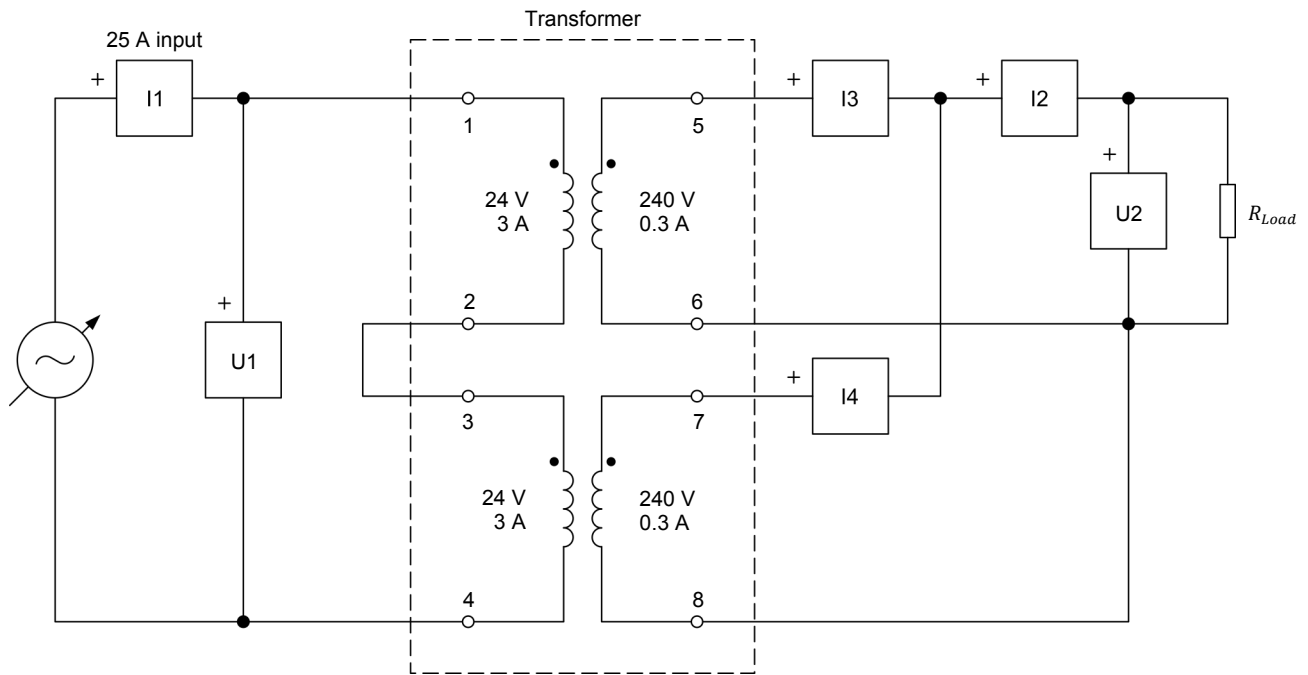

Figure 20. Step-up transformer with windings connected in parallel.
30. Modify the circuit connections to obtain the circuit shown in Figure 20. Do not change the resistance value of the resistive load. In this circuit, the two secondary windings (windings 5-6 and 7-8) are connected in parallel with the resistive load.